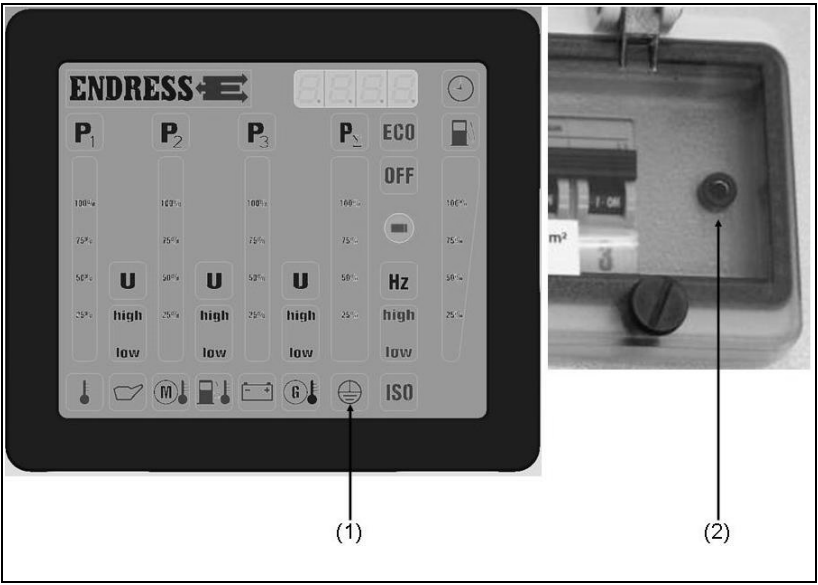

Fig. 4-5: Check the protective conductor
1. Insert test cable into socket (Fig. 4-5-(2)).
- ✓ The test lamp (Fig. 4-5-(1)) on the multifunction display shows the result: